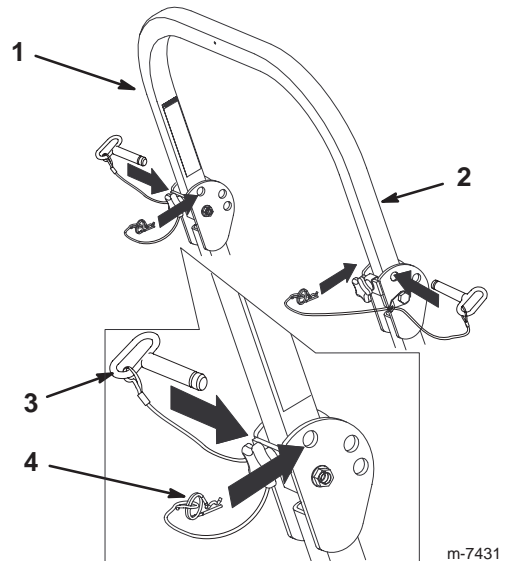

Figure 3
2. Remove the hairpin cotter pins and remove the 2 pins (Fig. 3).
- Install the 2 pins and secure them with the hairpin cotter pins (Fig. 3).
- To raise the roll bar, remove the hairpin cotter pins and remove the 2 pins (Fig. 3).
- Raise the roll bar to the upright position and install the 2 pins and secure them with the hairpin cotter pins (Fig. 3).